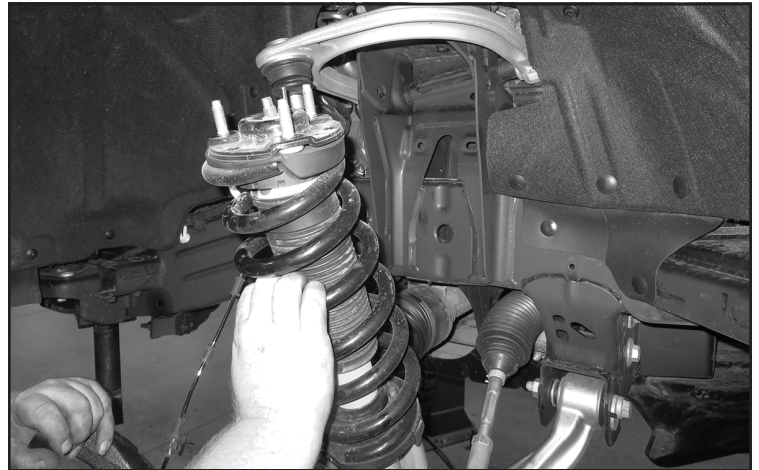

FIGURE 9 - STEP 10
10. Remove the upper and lower strut hardware. Then, remove the factory strut from the vehicle. Save hardware. **SEE FIGURE 9**